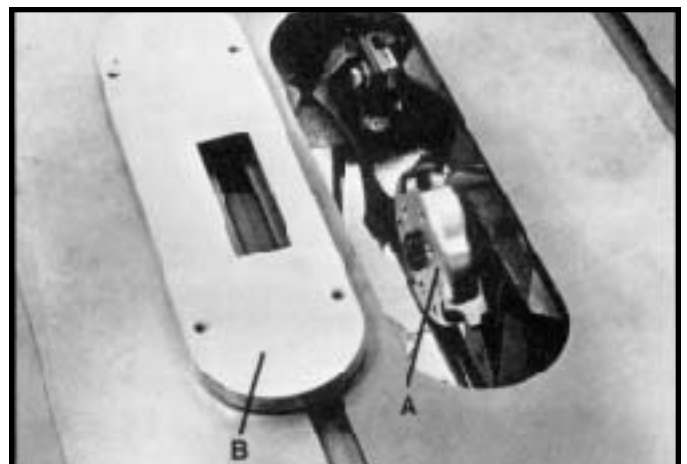

Fig. 116
The moulding cutterhead (A) Fig. 116, is assembled to the saw arbor as shown. Also, the accessory moulding cutterhead table insert (B), must be used in place of the standard table insert.